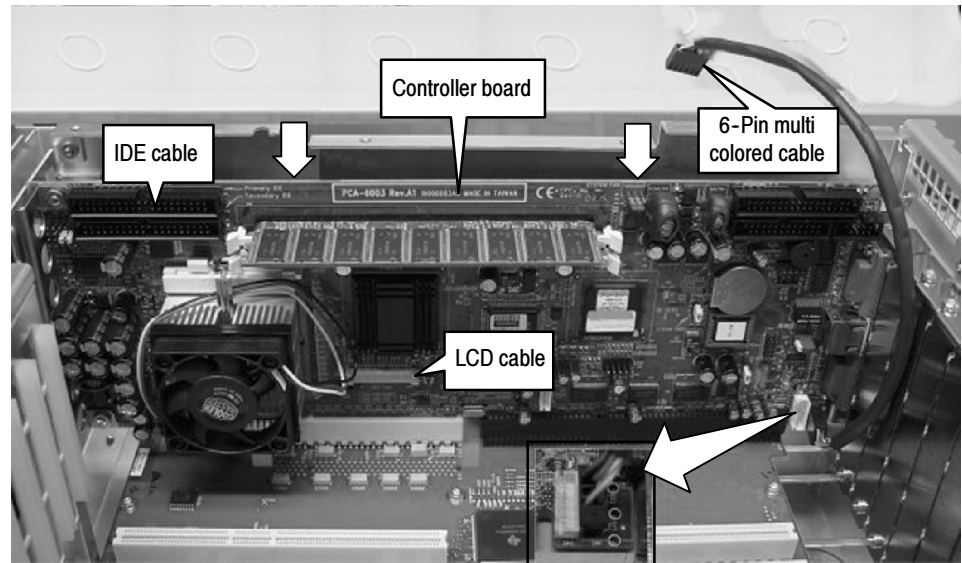

Figure 7: Installing the Controller board
1. Install the new controller board from the kit (039-0147-00) into the backplane as shown in Figure 7, pressing down at the arrows directly above the backplane connectors.
2. Connect the 6-pin multi-colored cable to the controller board as shown in Figure 7. The enlarged inset shows the orientation of the cable, with the yellow wire towards the backplane.